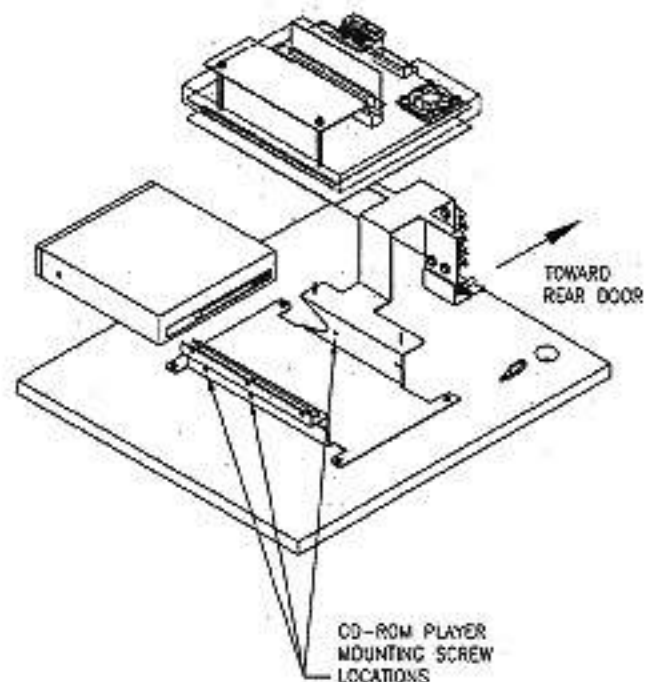

FIGURE 6 - REAR-ACCESS UPRIGHT
4. Remove the screw securing the front edge of the metal work to the wood shelf (see Figure 6).
6. Locate the remaining screw, located behind the power supply and beneath the motherboard assembly, securing the CD player to the metal work, and remove it (see Figure 6 for location).